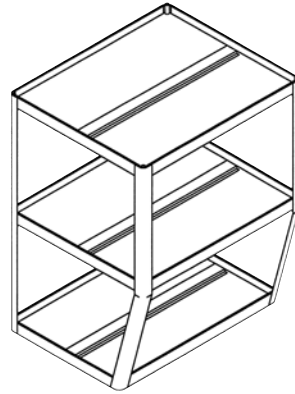

Figure 1
1. Invert the table to ease assembly. (Figure 1)